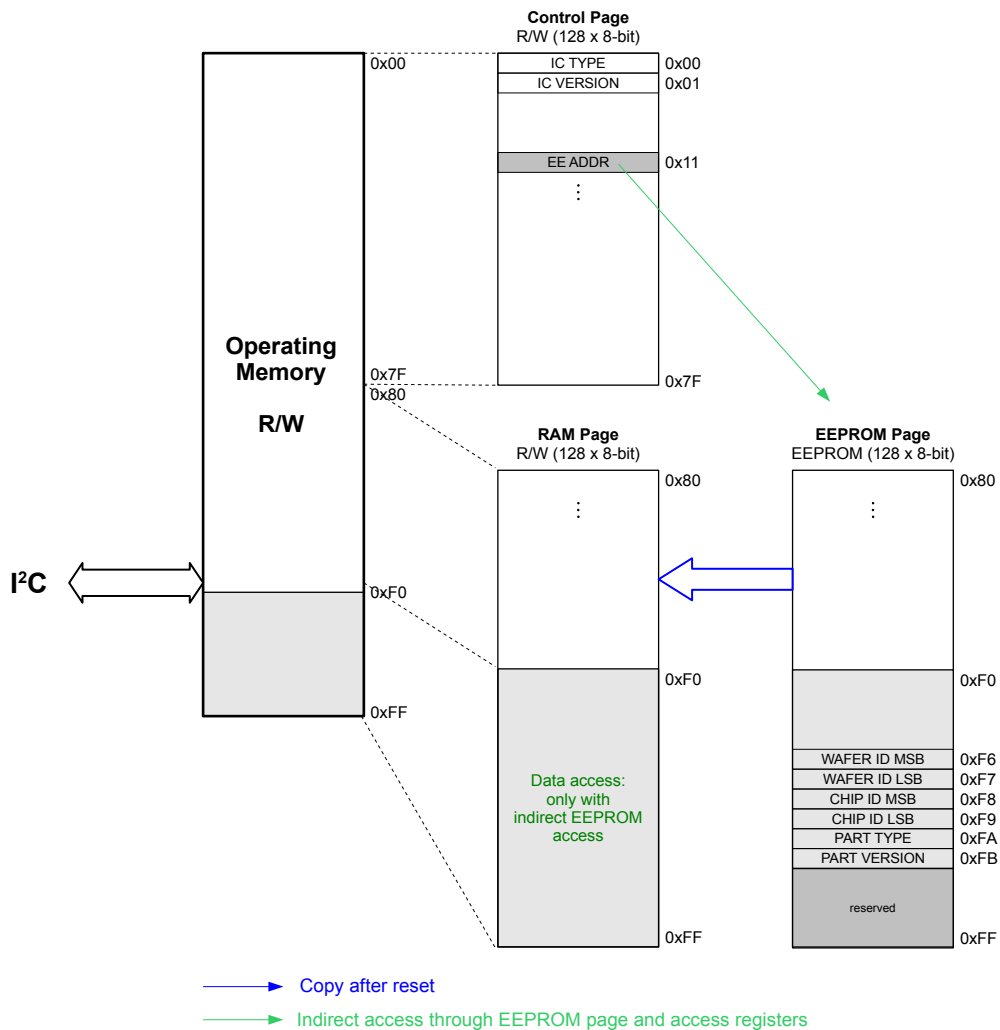

Figure 49: Memory map
The I²C-bus interface allows accessing the R/W registers and the programming of the EEPROM registers which store the configuration parameters. It is the only interface through which the configuration registers can be accessed (Figure 49 and Table 38) by the application. It works as a slave device according to the I²C specification (refer to chapter 16.2) with a transfer rate of up to 400 kbit/s in Fast Mode (FM) or 1Mbit/s in Fast Mode plus (FM+). The I²C master such as an external CPU can set the transfer speed simply by driving the SCL input at that frequency (up to 1MHz), therefore there is no prior register configuration or setting necessary.